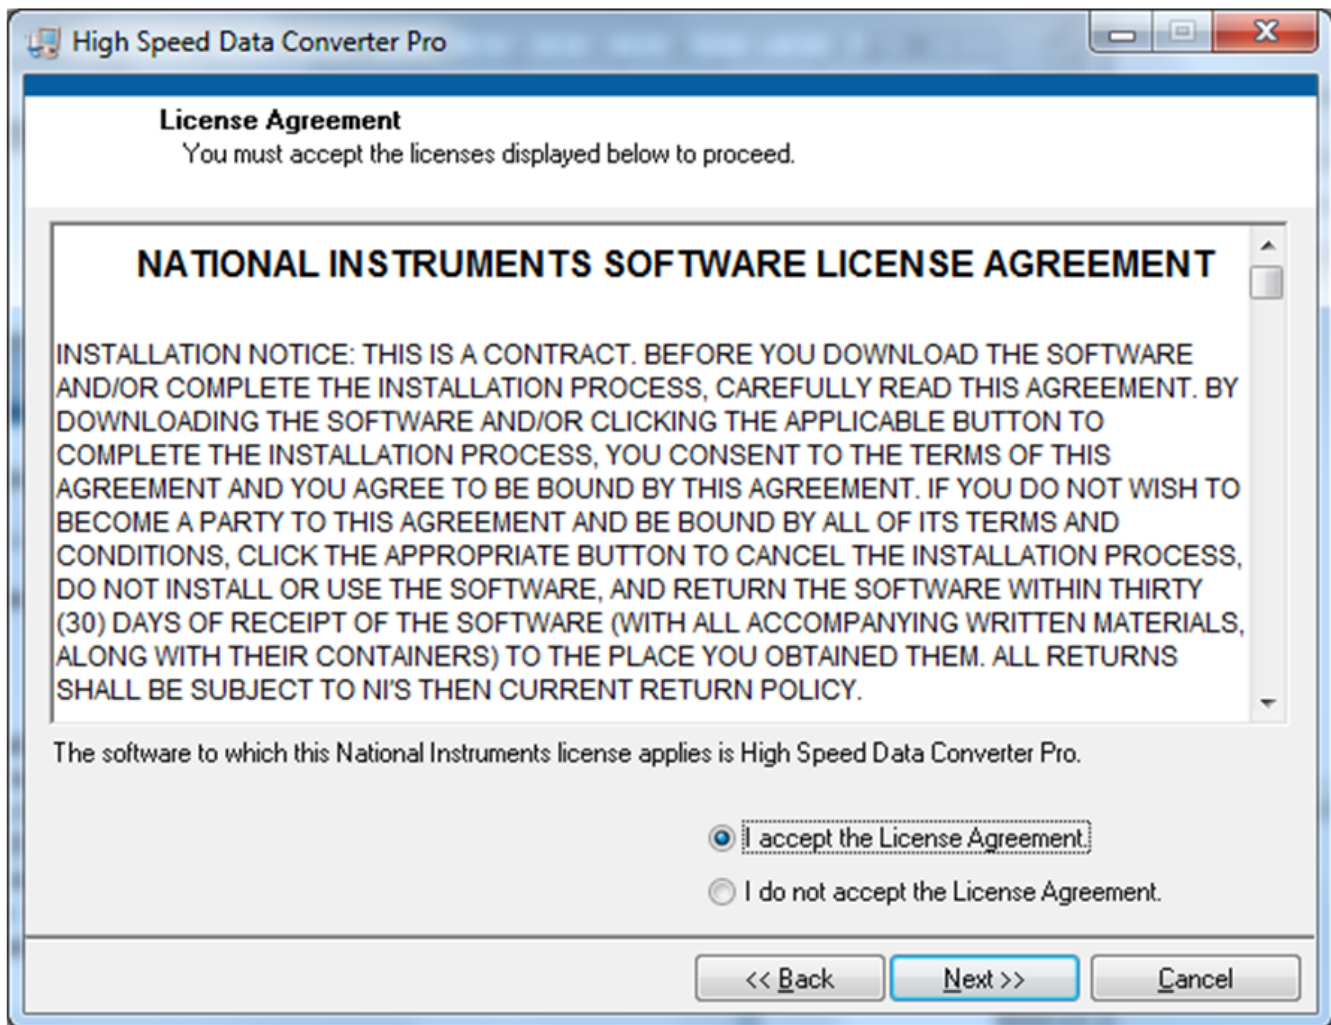

Figure 43. HSDCPro Install (NI License Agreement)
- Read the License Agreement from National Instruments and select *I accept the License Agreement* and press the *Next* button as shown in Figure 43.